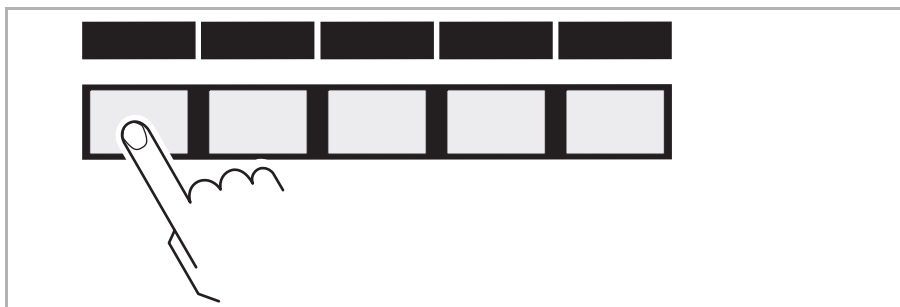

Fig. 8-4 Acknowledge the warning message
- 4 Confirm the warning message by pressing the leftmost button (Fig. 8-4, 213)